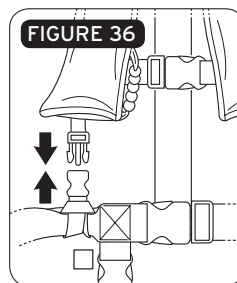

FIGURE 36
5. Repeat step 4 on the right side of the chest belt (Figure 36).